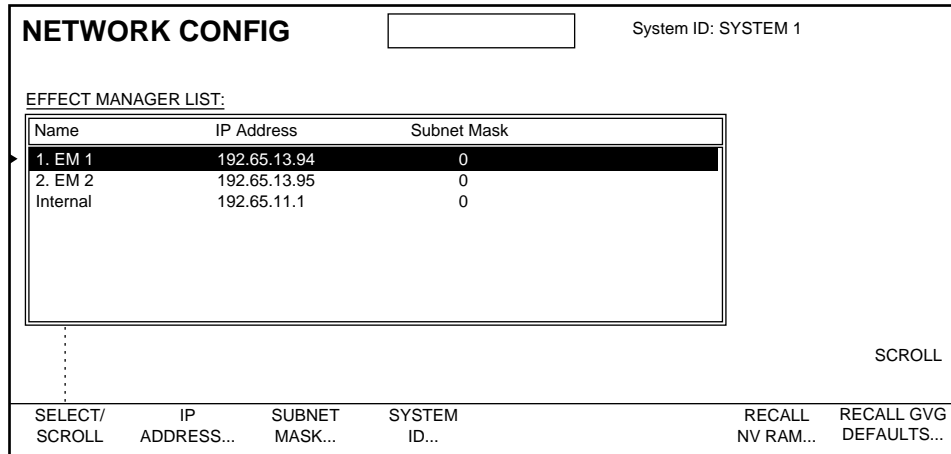

Figure 3-41. Network Configuration Menu
2. A warning appears indicating the system will reboot if network addresses are modified. Select OK to go to the Network Configuration menu (Figure 3-41).